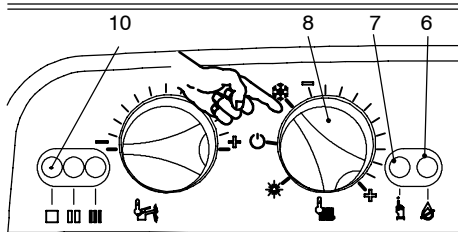

Fig. 7.6
- 2 Turn the function selector 8 as in Fig. 7.6. The appliance operation light 10 will flash every 2 seconds.